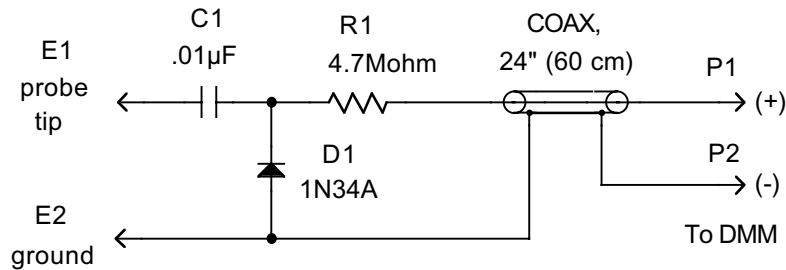

Figure 1
Your K2 kit includes a complete RF probe, including the PC board, coax, and connectors. **The switch spacing tool, which you used in assembling the Front Panel, doubles as the PC board for the probe.** The RF probe (Figure 1) converts RF signals to DC so they can be measured using a DMM. The DC readings on your DMM will be approximately equal to the signal voltage in V_{rms} (root-mean-square).
4. If you don't have an RF probe, you can build the one from Figure 1.